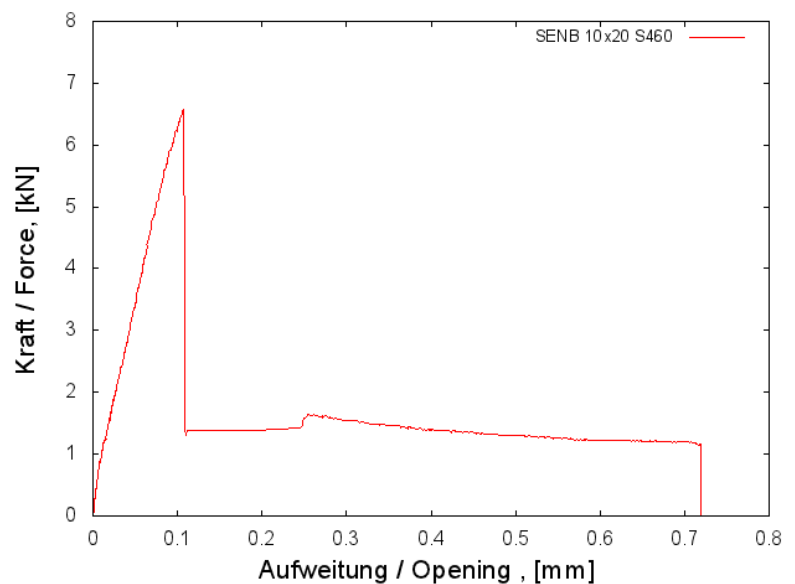

Figure 2: Force - Crack tip opening displacement data from experiment
- Indicate the point which is necessary to determine the fracture force in figure 2. (2 Points)